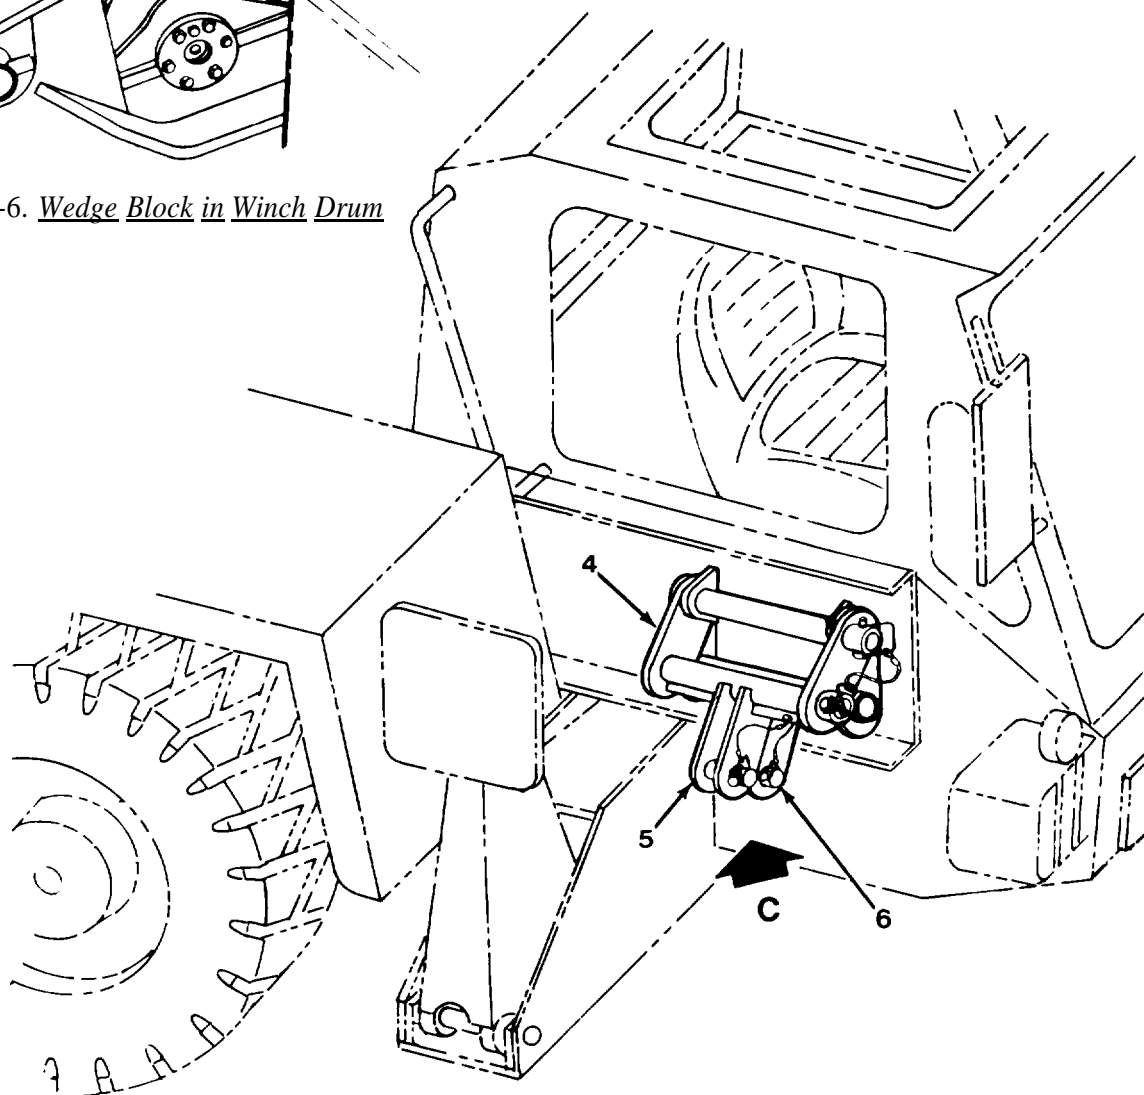
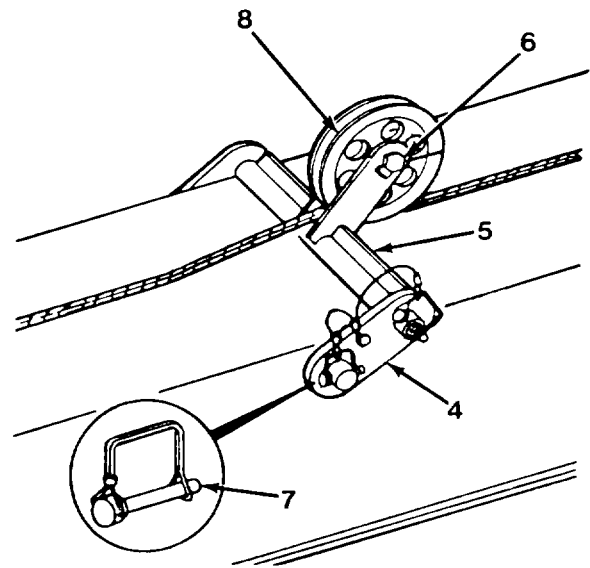

Figure 5-7. *Storage Location C*
Figure 5-8. *Installing Sheaves*
- a. Remove two right side attaching links (4) and toggle sheave brackets (5) from storage location C (Figure 5-7) on right front side of carrier frame.
- b. Remove two sheave pins (6) from toggle sheave brackets (5).
- c. Attach two toggle sheave brackets (5) and attaching links (4, Figure 5-8) to studs on top of boom. The cable should lay over two toggle sheave brackets (5), between ears. Secure two attaching links (4) and toggle sheave brackets (5) with two lynch pins (7) tethered to attaching links (4).
- d. Remove two sheaves (8) from tool box and install on toggle sheave brackets (5) with sheave pins (6). Make sure hex head of sheave pin (6) is aligned with key stock on toggle sheave bracket (5).